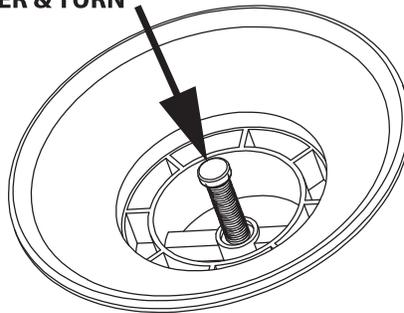

Figure 1. Inflate/Deflate of 2-way Military Valves
Your kayak uses the following valve. The 2-way military valve has the function and durability of other military type valves and is compatible with most standard pumps. Figure 1 below details how to operate the valves.
SEE Figure 1 on PAGE 9.
1. Remove the caps from both main chambers, push valve stems inward and rotate to the deflate position. (See Figure 1).